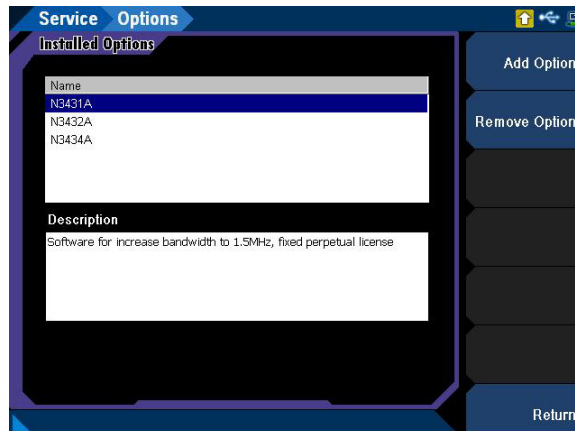

Figure 1-9 System > Service > Options menu page
- 3 From the Service menu page, press the **Options** softkey. The Options menu page is displayed as shown in **Figure 1-9**.
- 2 Press the **Remove Option** softkey to remove the U8903B option as shown in **Figure 1-9**.